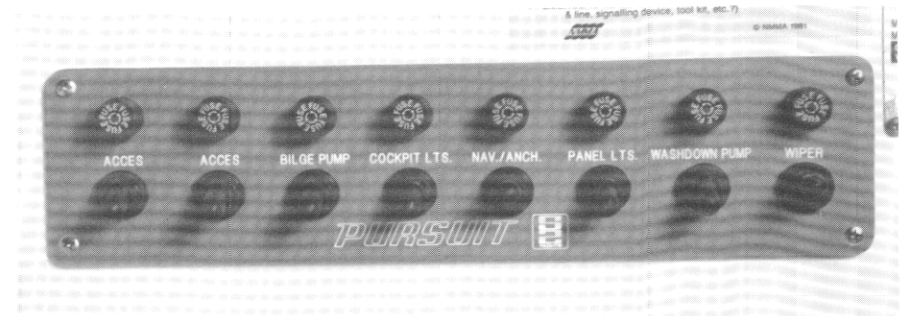

Figure 16
5. Test all switches on the accessory panel. See figure 16. Make sure the switches activate the equipment they control, and all equipment is in good operating condition.